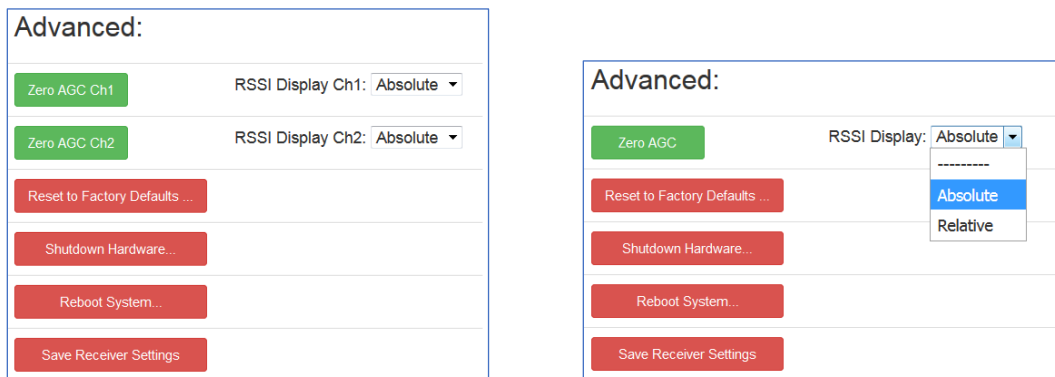

Figure 116: Advanced Buttons, Zero AGC Button, Separate Channels or Combiner Active
Automatic Gain Control (AGC) may be set to zero (0) by clicking on the green Zero AGC button in the Advanced section, shown in Figure 116. One or two buttons are available depending on the number of channels and the combiner mode.
The RSSI display has two modes depending on the option selected in the RSSI Display drop down menu, shown in Figure 116.